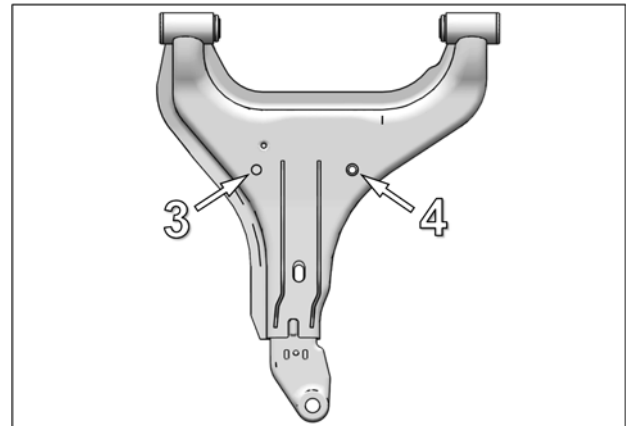

Fig. 11
- Drill out existing holes (3) and (4) to  $\varnothing 8,5$  mm [ $\varnothing 11/32$ "]. Fig. 11